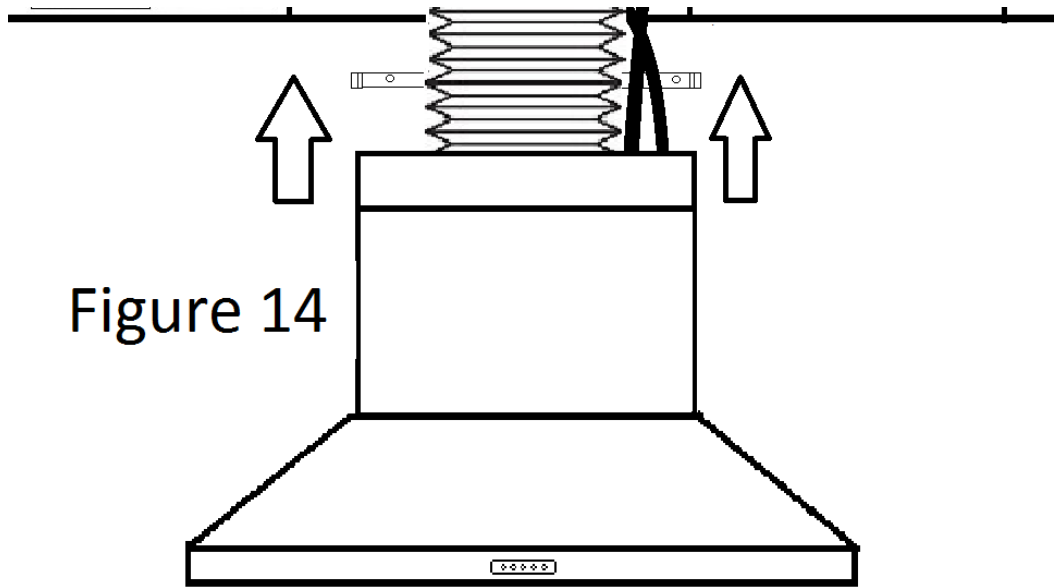

Figure 14
Step 15: Connect male plug from rangehood to main power supply. See figure 14
Step 16: Connect female plug from rangehood to male plug of double adaptor See figure 14